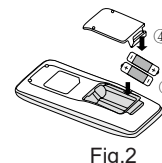

Fig.2
3. Place two 7# (AAA 1.5V) dry batteries, and make sure the position of "+" polar and "-" polar is correct (as shown in Fig 2 ③).
4. Reinstall the cover (as shown in Fig 2 ④).